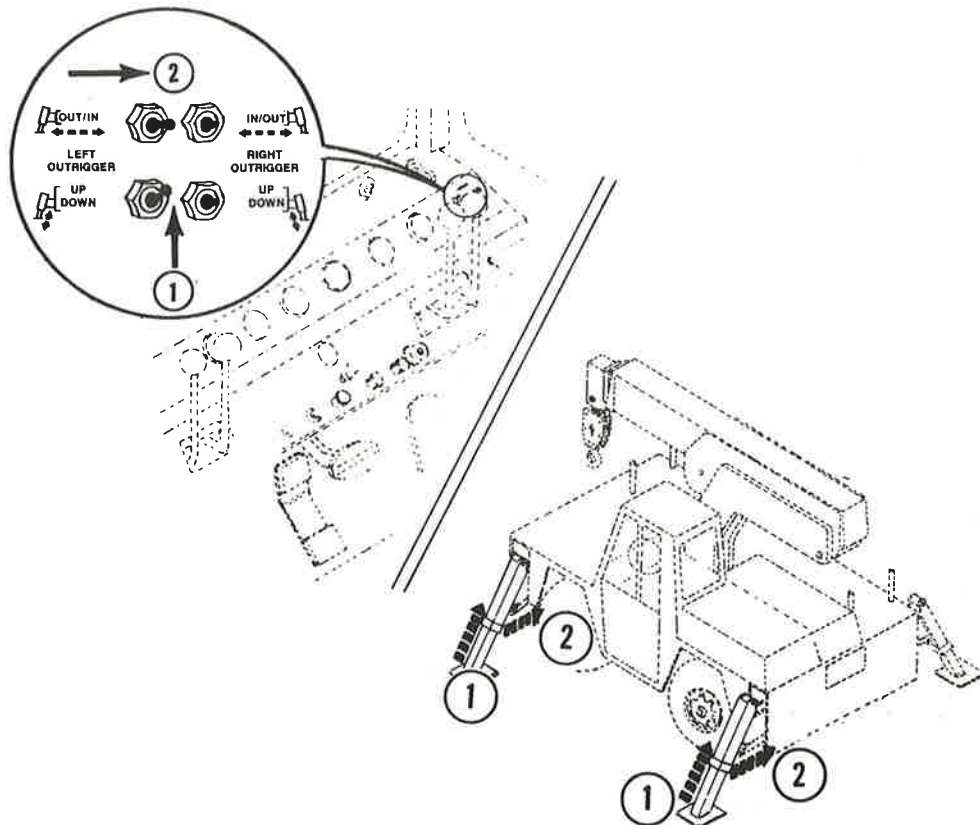

Figure 13. To Raise and Retract the Outriggers
1. To Raise: Run the engine at low rpm (accelerator pedal released). Engage and hold the desired switch up as required (Figure 13, Item 1). Push the accelerator pedal to increase the engine rpm and accelerate the upward movement of the outriggers. Release the accelerator pedal and the switch when the outriggers are fully raised.
2. To Retract: Engage and hold the desired switch as required (Figure 13, Item 2). Push the accelerator pedal to increase the engine rpm and accelerate the retraction of the outriggers. Release the accelerator pedal and the switch when the outriggers are fully retracted.